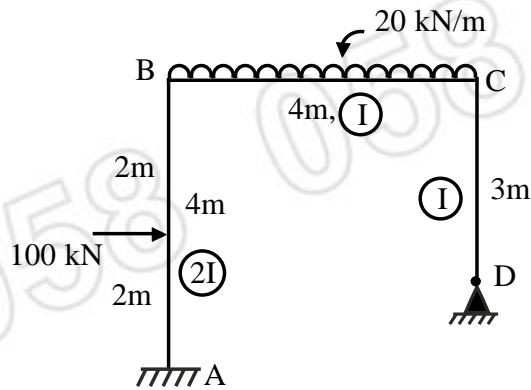

Fig.1
1. Analyse the frame shown in fig. 1 by Kani's method and draw B.M.D. 14